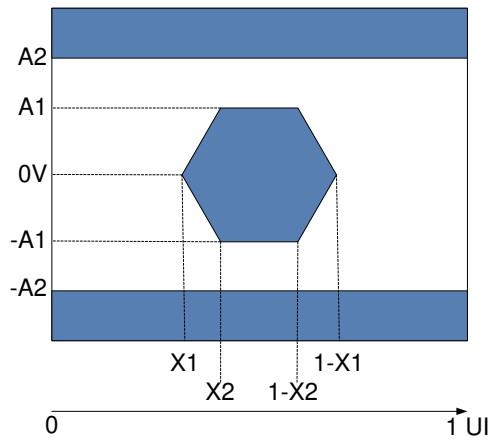

Figure 5-12. HSSI Eye Characteristics
- (5) See Figure 5-12 for rise time and fall time for HSSI Eye Characteristics.